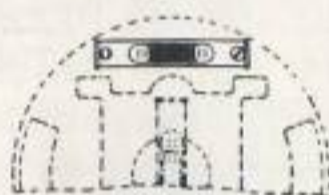

Fig. 7
1. **Plate Levels** — To adjust the two small plate levels so that their axes are in planes at right angles to the vertical axis of the transit, turn the plate until each level is parallel to the line through a pair of opposite leveling screws, center each bubble carefully with the leveling screws and then turn the upper plate 180° in azimuth, that is, until each bubble has been turned end for end. Any displacement of the bubble represents twice the actual error of adjustment. To correct this error move the capstan-head screws on the level cases so as to bring each bubble **halfway** back to the center. Then re-level by means of the leveling screws and test the adjustment again. Several repetitions of the adjustment may be required. When the levels are in perfect adjustment they should remain in the center in all azimuths. (See Fig. 4 — Fig. 7).